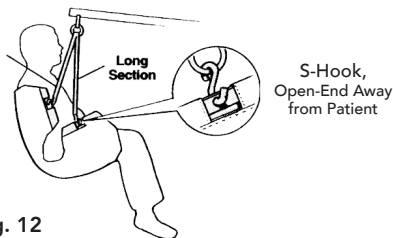

Fig. 12
3. The S-hook **MUST** be inserted through the hole in the support bar with the open end facing away from the patient. See Fig. 12.